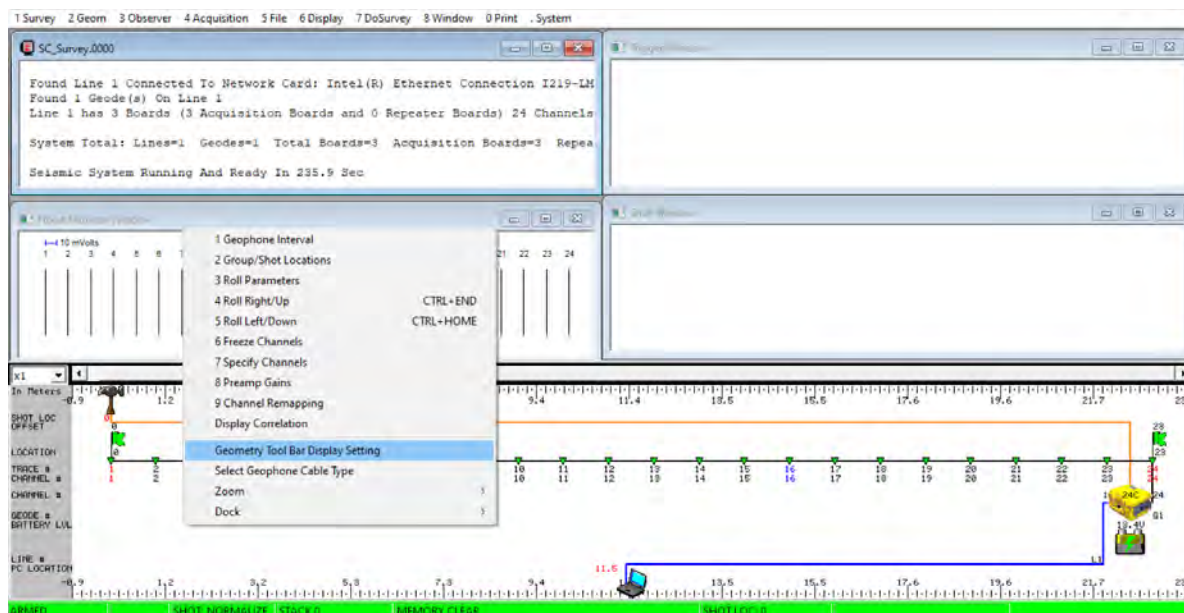

Figure 8. Selecting Display Settings
- a. Right click on the Geometry toolbar at the bottom and select “Geometry Tool Bar Display Setting” (Fig. 8).